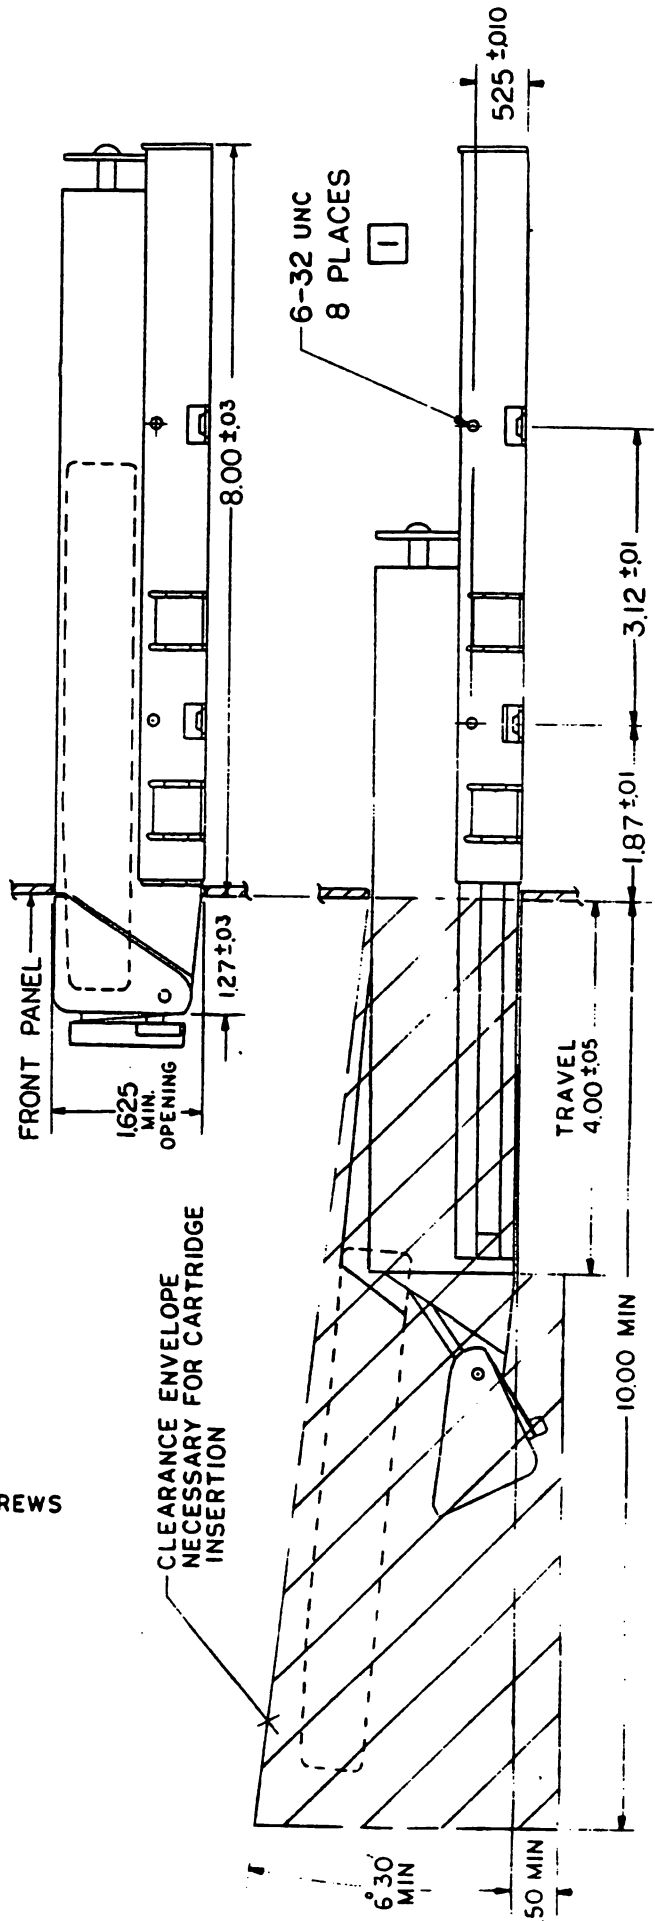
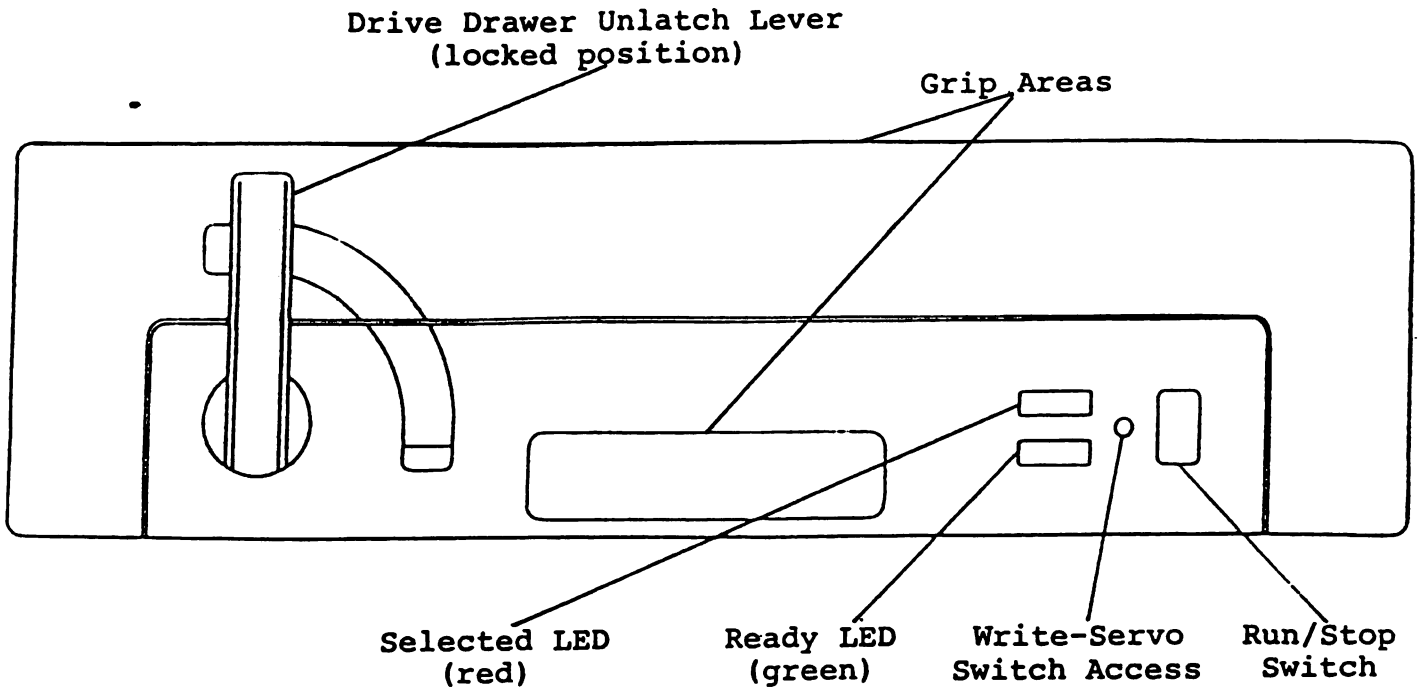

Figure 1-1. Drive dimensions and mounting hole locations.
Figure 1-2. Drive front panel.
Innovative Packaging: The drive itself is contained in a drawer-like mechanism which is pulled from the cabinet for cartridge insertion and removal. When open, the drive extends about 4 inches from the system front panel; when closed and in the operating mode, the cartridge receiver compartment will protrude about 1.32 inches from the front panel (see Figure 1-1). The drive fits into an 8-inch space behind the system's front panel. It is 5.75 inches wide, 1.625 inches thick and weighs 3.5 pounds. A rotating lever on the front panel locks the drive door closed; the drive will neither slide back into the system nor operate unless this lever is in the locked position (see Figure 1-2). Two LEDs are located on the front panel as well and indicate whether the drive is active and what activity is current (see Section 5). Write Servo access is provided by an aperture next to the LEDs, and a Run/Stop switch on the right side of the panel permits drive spindle control.
2.10 Package (see Figure 1-1):